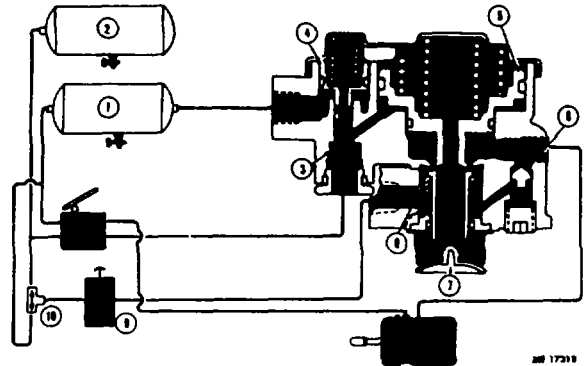

Fig. 8 Parking Brake Application
**Parking (Spring) Brake Application (Fig. 8)**